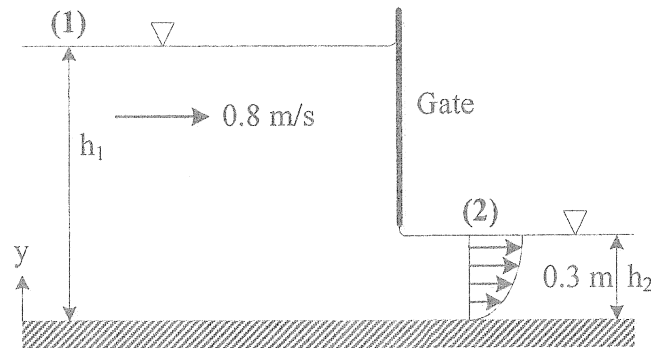

Figure Q3
- Q3. Figure Q3 shows a sluice gate in a wide open channel with negligible slope and negligible friction at the channel bed. The depth h_2 of water just downstream of the gate at section (2) is 0.3 m and the velocity profile is approximated by $u = 5 \left(\frac{y}{0.3} \right)^{1/7}$ where u is the velocity in m/s at a distance y metres from the bed. At the upstream section (1) the depth is h_1 and the velocity is uniform at 0.8 m/s.